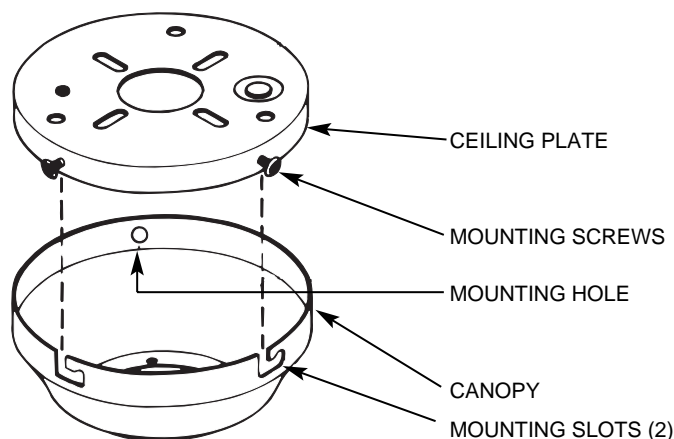

FIGURE 7
A. The ceiling plate has (3) mounting screw holes located on the side. Install (2) #10-32 x 1/2" Phillips round head screws halfway into two of these holes. See Figure 7.
Remove the fan from the ceiling plate hook. Make sure not to break any wire connections. The canopy has (2) mating slots and (1) mating hole. See Figure 7.